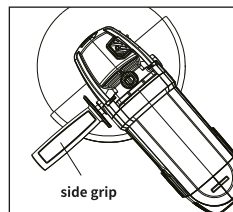

Fig 5
**CAUTION:** Always ensure that the side grip is installed securely before operation. The tool's head is designed with three screw holes on both sides and the top side to facilitate the assembly of the grip. Screw the side grip securely into the position shown in the Fig 5. Hold the side grip firmly by hand throughout the operation to maintain better control of the tool.